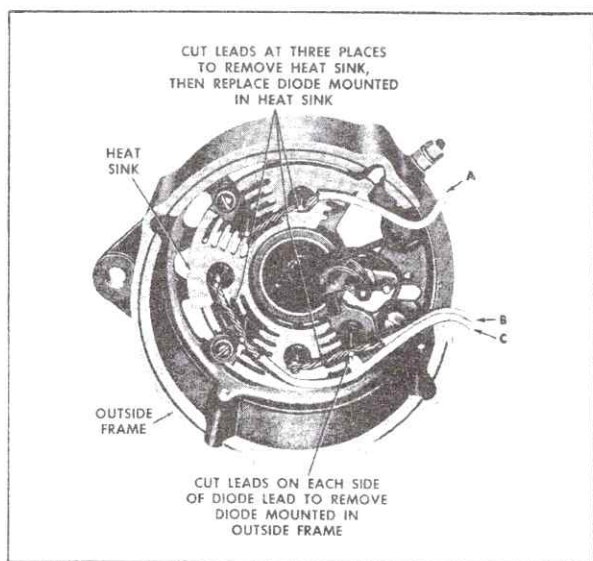

Fig. 6-62 Replacing Defective Diodes
- d. Cut diode leads in three places as shown in Fig. 6-62, and remove heat sink from end frame.
4. If it is necessary to replace a diode mounted in the outside frame, use diagonal cutters to clip the flexible leads on each side of the diode lead. Clip the flexible leads as close to the diode lead as possible, Fig. 6-62.
8. If it is necessary to replace a diode mounted in the heat sink, it will be necessary to remove the heat sink from the end frame. This is accomplished by clipping with diagonal cutters the flexible lead as close to the defective diode lead as possible. Also clip the flexible leads midway between the other two pairs of diodes, Fig. 6-62. Then remove the "BAT" terminal and heat sink attaching screws, and the long leads from the nylon connector. For easy removal of the defective diode, it is recommended that the diode and heat sink be heated in an oven to 150°F., or briefly submerged in hot water just below the boiling point.
a. The lead designated "A" in Fig. 6-62 should be connected to the AC terminal on the end closest to the "BAT" terminal.
b. The lead designated "B" in Fig. 6-62 should be connected to the AC terminal at the opposite end.
c. The lead designated "C" in Fig. 6-62 should be connected to the center AC terminal.